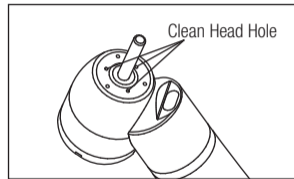

Fig. 6
- 1) Remove dirt and debris from the Clean Head Holes with the cleaning wire and brush (supplied as an accessory for the handpiece). (Fig. 6)